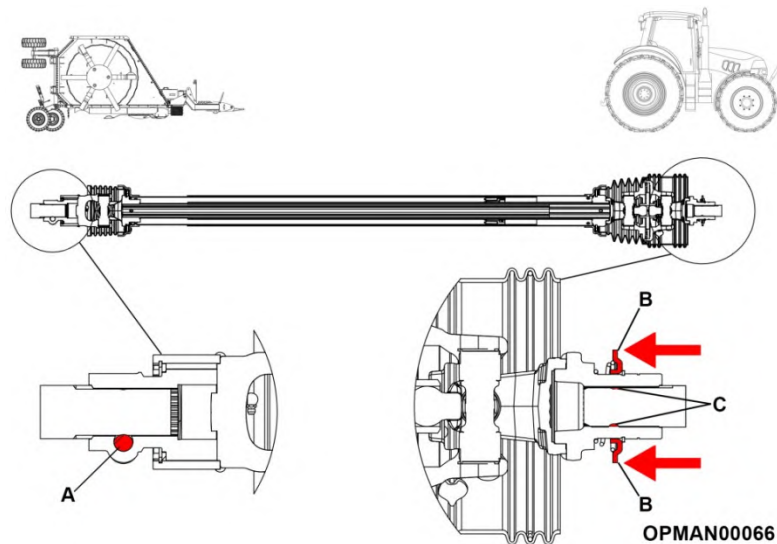

Figure 4.10 – Tuffcut Input Shaft Fitting & Removal
- 4.5.1.2 Install the input PTO shaft onto the splitter gearbox lining up the slot in the splitter gearbox shaft with where the input shaft taper pin will be placed; see Figure 4.10 (A). Replace the removed taper pin, flat washer and nut and tighten to a torque of 230Nm (170 ft/lbs).
- 4.5.1.3 Pull the input shaft yoke collar back and align the grooves and splines with those of the PTO output shaft of the tractor; see Figure 4.10 (B).
- 4.5.1.4 Push the driveline yoke onto the tractor output PTO shaft, release the locking collar and position the yoke of the input shaft until the locking collar balls are seated onto the tractors output PTO shaft; see Figure 4.10 (C).
4.5.1.6 Pull the input shaft yoke collar back and pull back the shaft off the output splined shaft of the tractor; see Figure 4.10 (B).